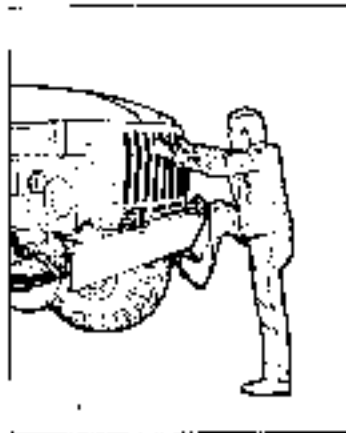

Fig. 6. How to Climb the Trailer Using Step and Radiator Grill Rails
5. For climbing the truck's bumper, use the step, central and extreme left ribs of the radiator grill, having inserts from the inside (Fig. 6).